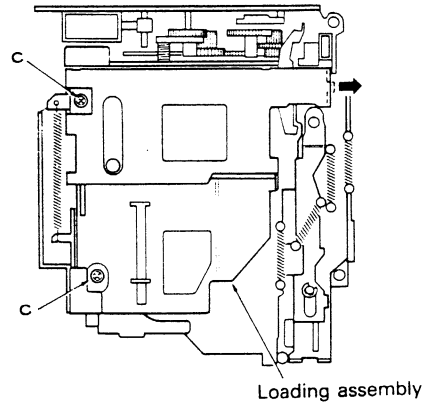

Fig. 3
1. After removing the two screws retaining the loading assembly (labeled "C" in Figure 3), gently push the loading assembly in the direction indicated by the arrow. The loading assembly can now be removed by pulling upward.